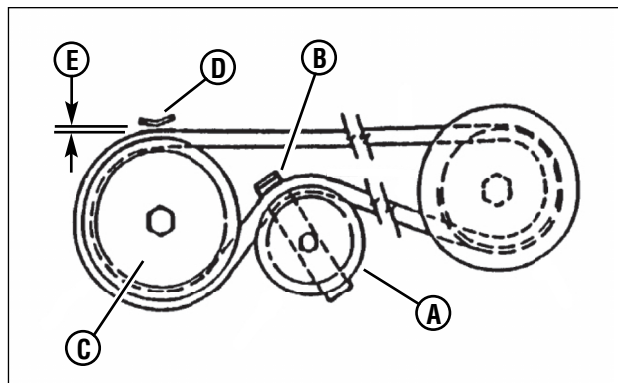

Figure 46: Belt routing for 28 and 30 inch decks
8. Remove the idler (A, Figures 46 and 47).
9. Route the belt onto the spindle pulley (C). Make sure the belt is inside the spindle belt guide (D) and the idler belt guide (B). Route the belt as shown.
11. Adjust the belt guide to allow 1/16" belt-to-belt guide clearance (E).